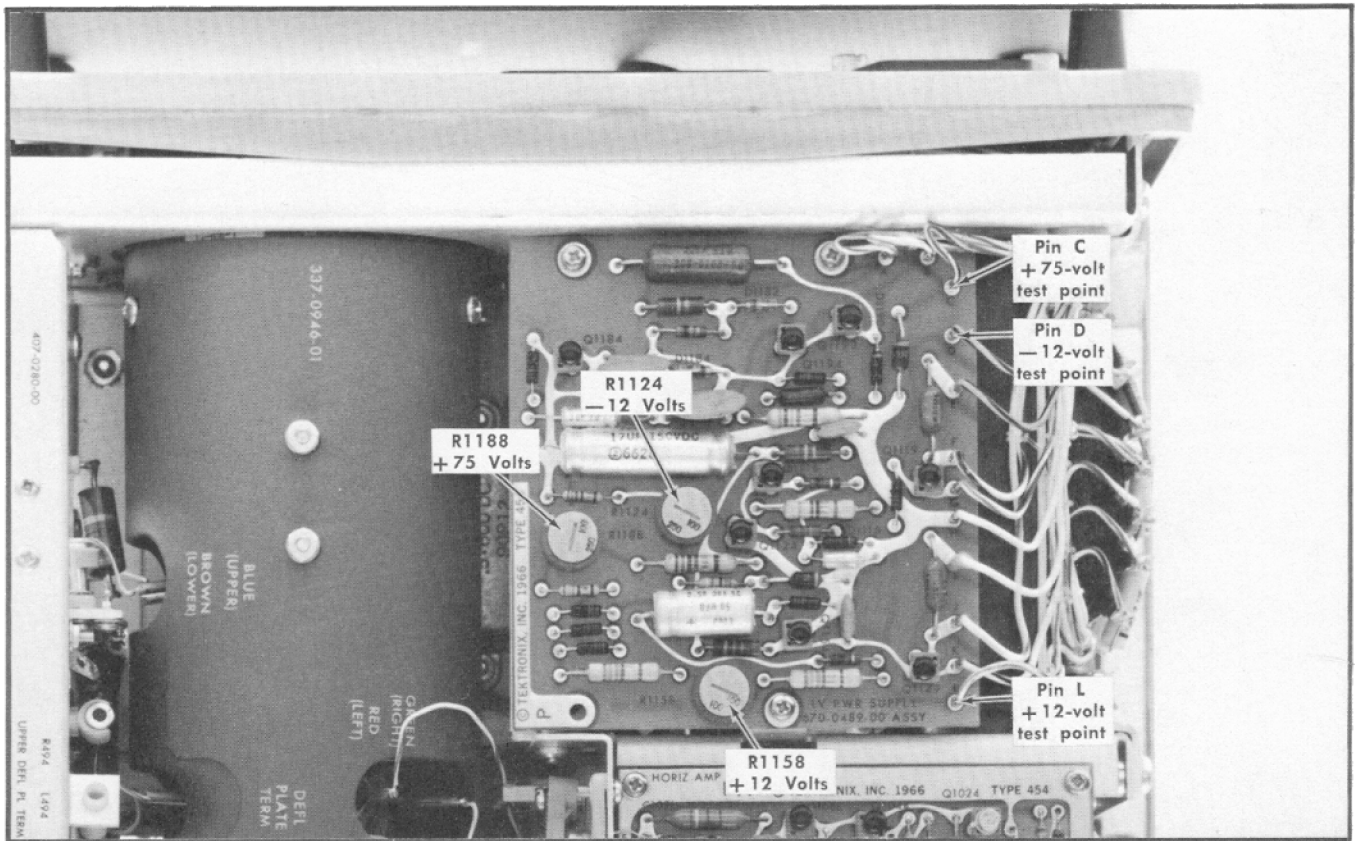

Fig. 6-4. Low-voltage power supply test points and adjustments (Low-Voltage Regulator circuit board).
- b. Connect the precision DC voltmeter from the —12-volt test point (pin connector 'D', Low-Voltage Regulator board; see Fig. 6-4) to chassis ground.
- d. ADJUST— —12 Volts adjustment, R1124 (see Fig. 6-4), for —12 volts.
- d. ADJUST—+12 Volts adjustment, R1158 (see Fig. 6-4), for +1 volt.
- f. Connect the precision DC voltmeter from the +12-volt test point (pin connector 'L', Low-Voltage Regulator board; see Fig. 6-4) to chassis ground.
3. Adjust +75-Volt Power Supply ①
- a. Connect the precision DC voltmeter from the +75-volt test point (pin connector 'C', Low-Voltage Regulator board; see Fig. 6-4) to chassis ground.
- c. ADJUST—+75 Volts adjustment, R1188 (see Fig. 6-4), for +75 volts.